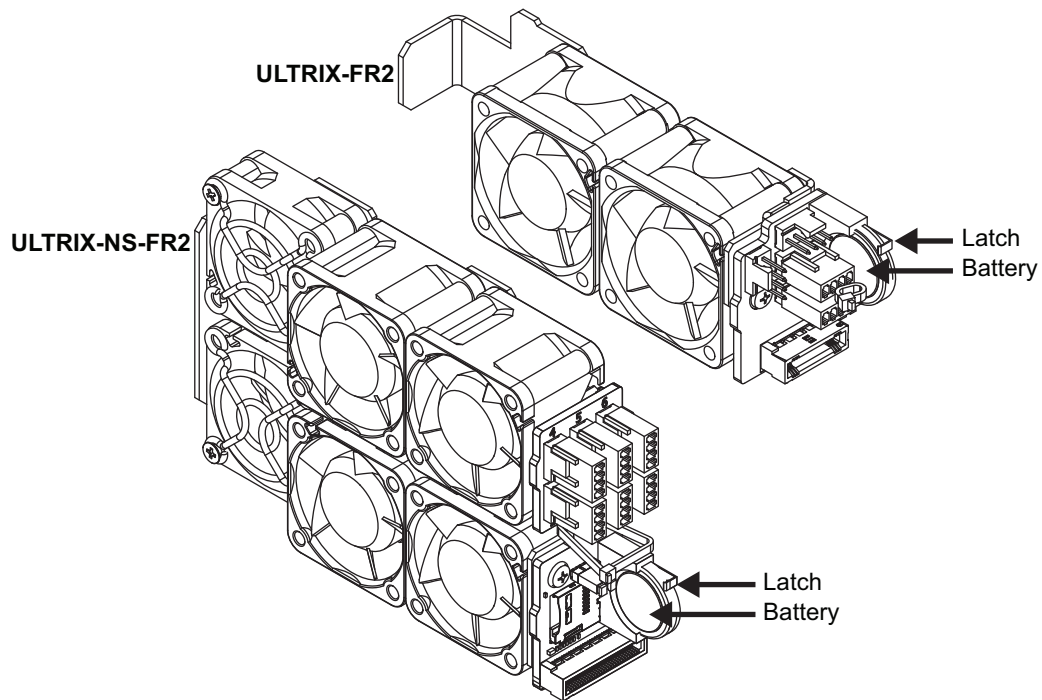

Figure 86 Battery Location inside the Cooling Fan Module — ULTRIX-FR2 and ULTRIX-NS-FR2
1. Locate and note the orientation of the failed battery inside the Cooling Fan Module. (**Figure 86**)